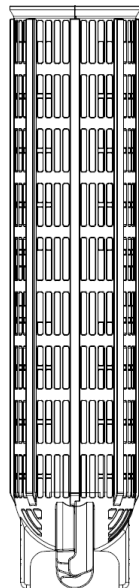
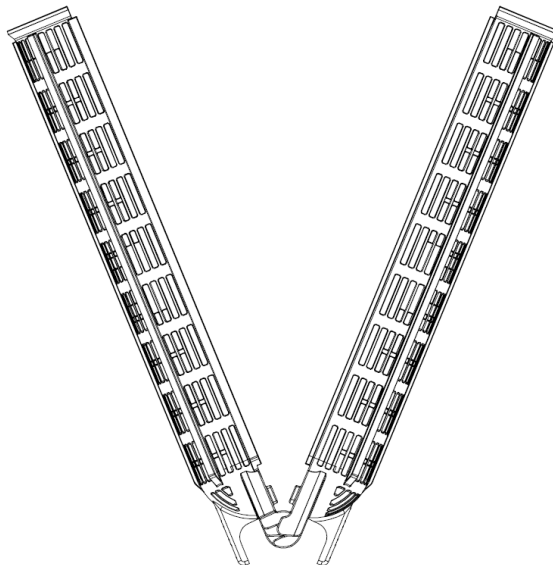

Fig. 12A: Basket in "closed" position
Fig. 12B: Basket 45° "open"
2.5.1.7.3 Pivot basket halves away from each other. This will allow bag to be easily removed from basket. Remove and properly dispose of used filter bag. (Note: Hinge is designed so that basket can be fully opened and will not allow halves to disengage.) (See fig. 12A and fig. 12B.)